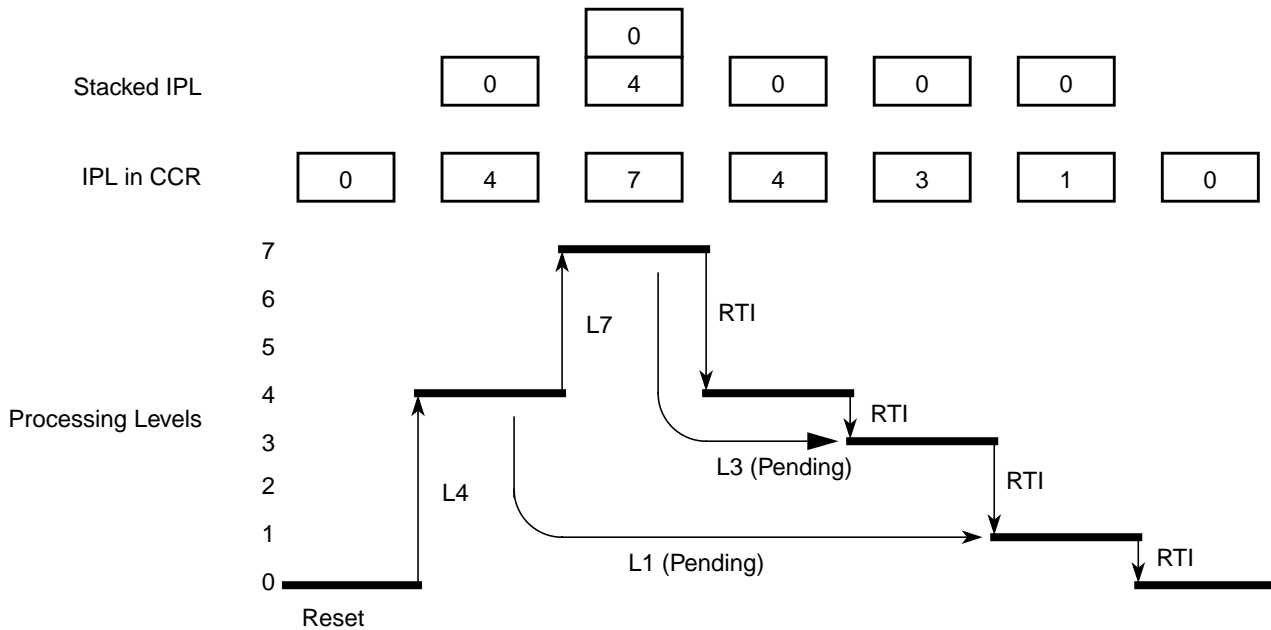

Figure 16-14. Interrupt Processing Example
- I bit maskable interrupt requests can be interrupted by an interrupt request with a higher priority, so that there can be up to seven nested I bit maskable interrupt requests at a time (refer to Figure 16-14 for an example using up to three nested interrupt requests).